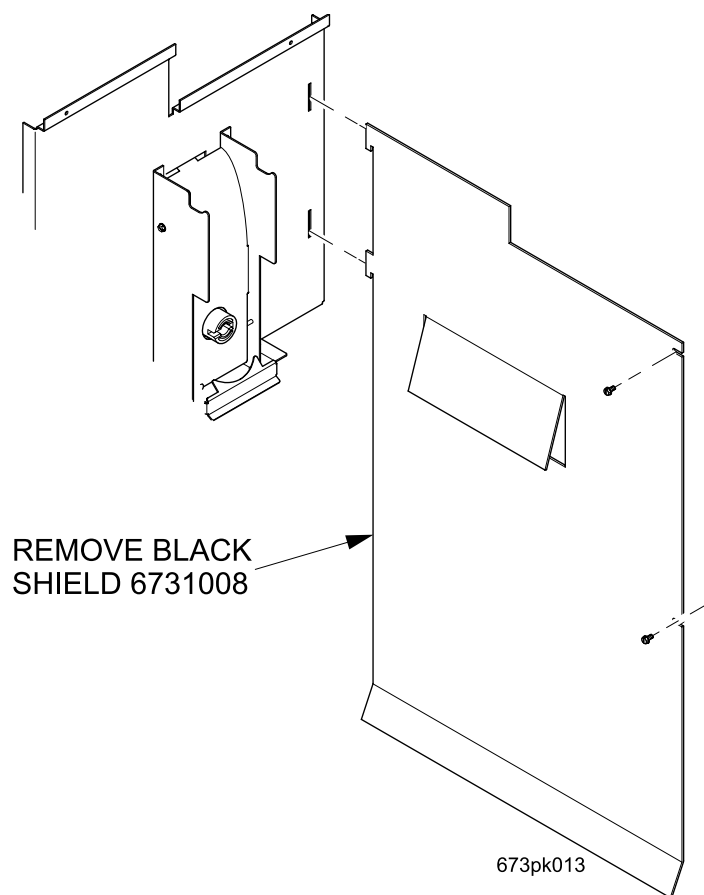

Figure 1
2. Remove the Shield - Water - Brewer (6731008) (see Figure 1 below).